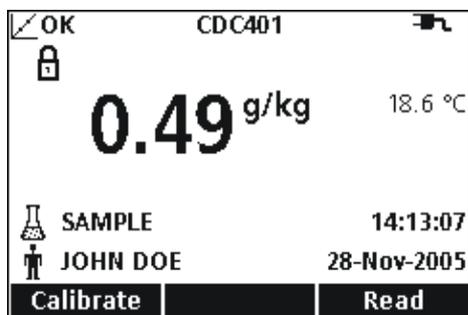
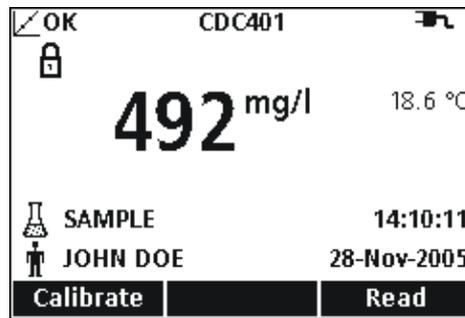

Figure 17 Example of Conductivity Measurement Displayed in Salinity Units
Figure 18 Example of Conductivity Measurement Displayed in TDS Units
4. This screen is an example of a conductivity measurement displayed in conductivity units. Repeat this procedure to take additional measurements. See Figure 17 on page 64, Figure 18, and Figure 19 on page 65.